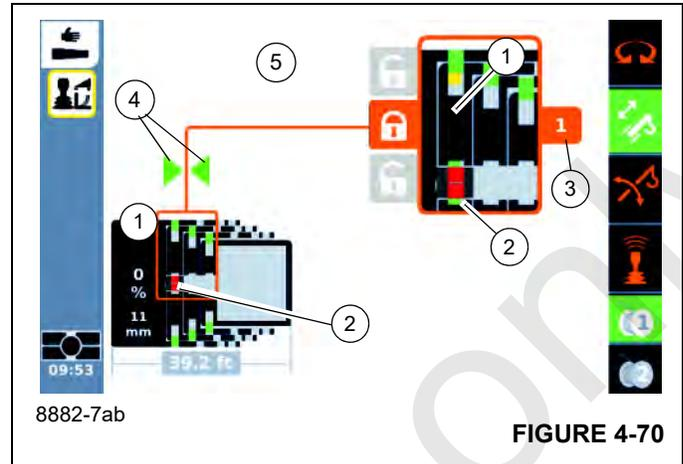

FIGURE 4-70
The display (1), (Figure 4-70) shows the position of the telescoping cylinder (example, 11 mm) within the boom (millimeters), as well as a percentage of boom section travel (when the cylinder is locked to a boom section).
- The display (3), (Figure 4-70) shows the corresponding telescopic section, e.g. telescopic section 1.
- The display (4), (Figure 4-70) shows two green arrows, depending on the distance to the locking point.
The current positions of the locking pins are (Figure 4-70):
Item (5), (Figure 4-70) shows an enlarged cut-out.